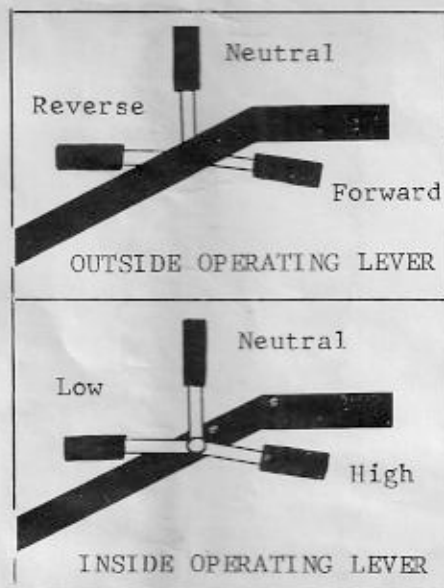

Figure 2
**OPERATING LEVERS.** The Operating Levers are attached to the right Handle (right, as you stand at the Handles). The inside Lever selects high and low ranges; the outside Lever selects forward and reverse. See Figure 2 for Lever positions.